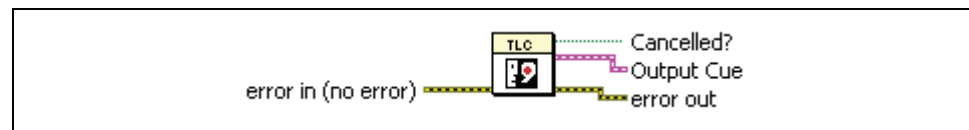

Figure 7-11. Record Dialog Box Connector Pane
4. Modify the connector pane to pass the **Output Cue** parameter, as shown in Figure 7-11.